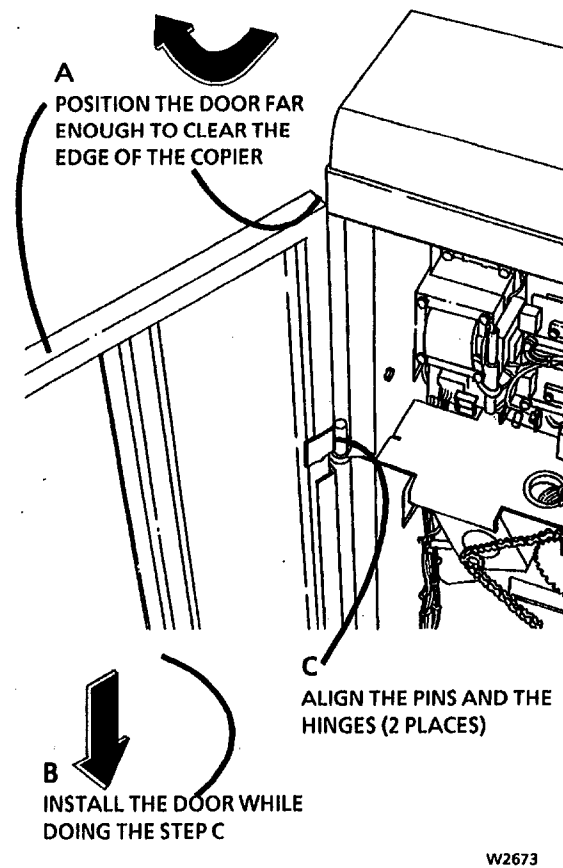

Figure 2. Install the Left Side Door
1. (Figure 2): Install the Left Side Door.